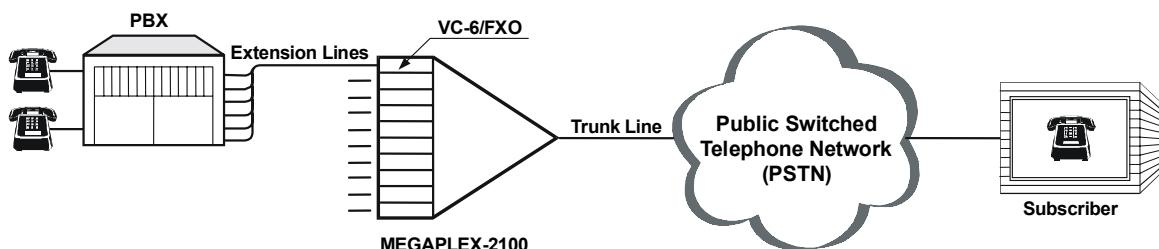

Figure 1-4. Typical PSTN Application for VC-6/FXO Modules
Due to flexible signaling configuration capabilities, the VC-6/FXS and VC-6/FXO modules can also be used in links ending in the public switched telephone network (PSTN), such as the typical application shown in Figure 1-4. In this application, PSTN subscribers can dial directly to the subscribers connected to the VC-6/FXS module installed in the Megaplex unit.
- Profile 2 is used to enable connection of VC-6/FXO or VC-6/FXS modules to T1 trunks ending in the PSTN (a typical application of this type is shown in *Figure 1-4*), however VC-6/FXO modules using profile 2 can also be connected to VC-6/FXS modules using profile 2.